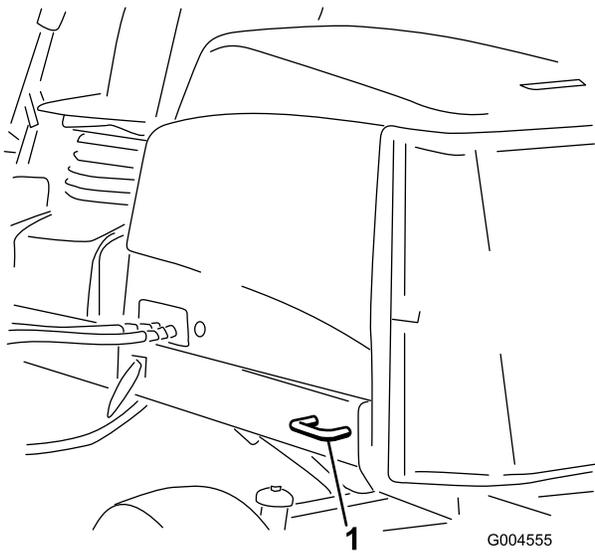

Figure 69
- Rear—each side of the machine on the rear frame (Figure 69)